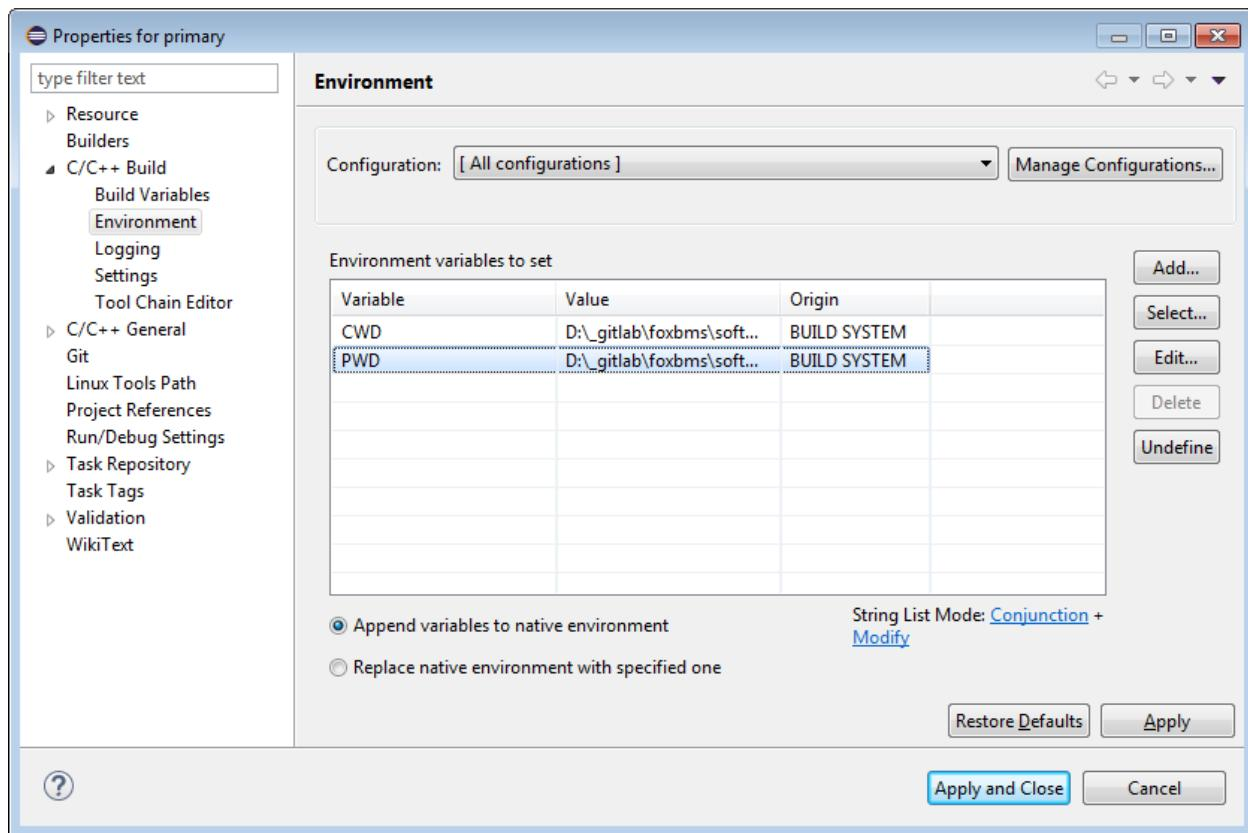
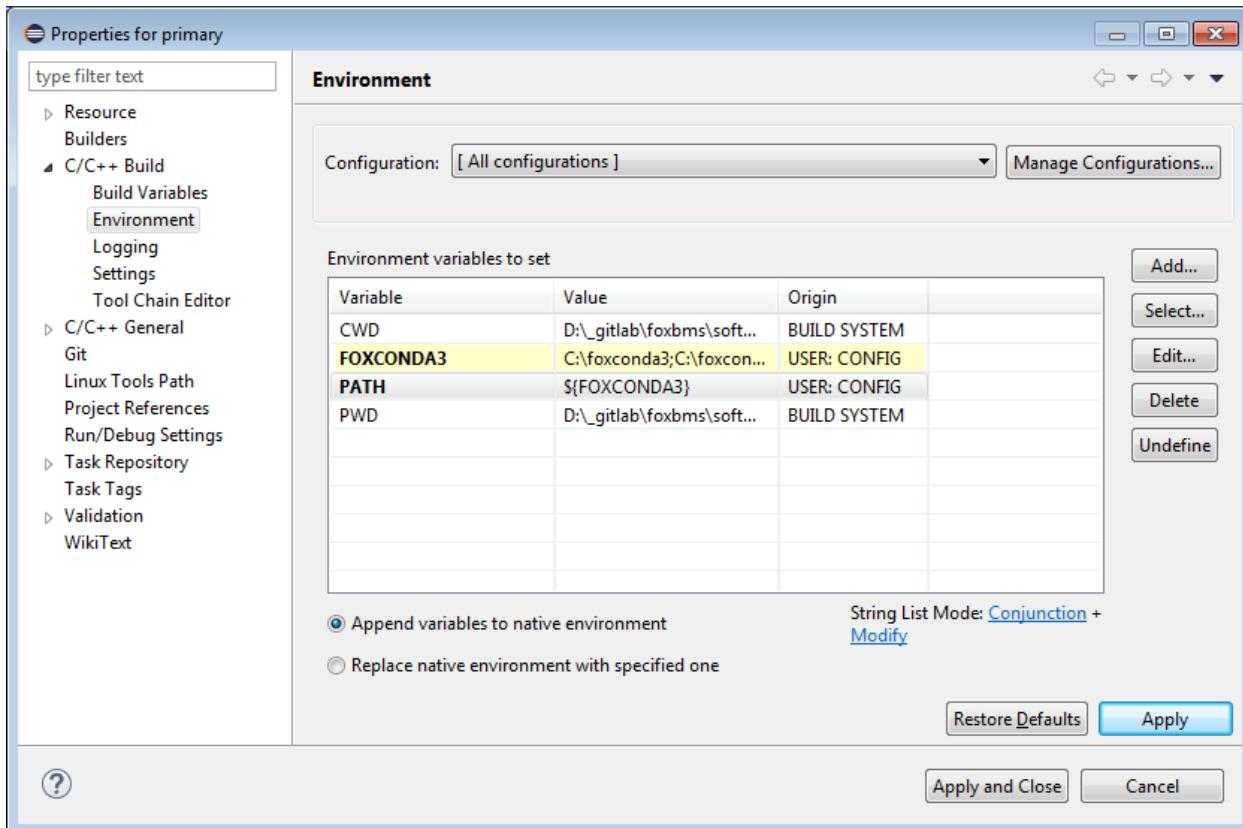

Fig. 11.14: C/C++ Build project properties
Fig. 11.15: Environment settings for the project.
- The result should look like this: *the one shown in Fig. 11.14. Use the steps on p. 79 after Fig. 11.14 to do the configurations.*
1. Click **Add...** and **Note: The text here are steps used to go from Fig. 11.14 to Fig 11.15.**